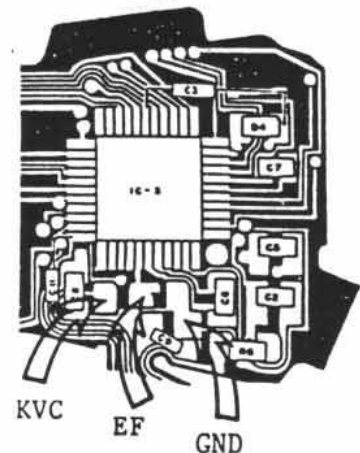

Fig. 2
3. Remove R7 (Pg. 30, Fig. 2) and install a 40KOhm variable resistor.